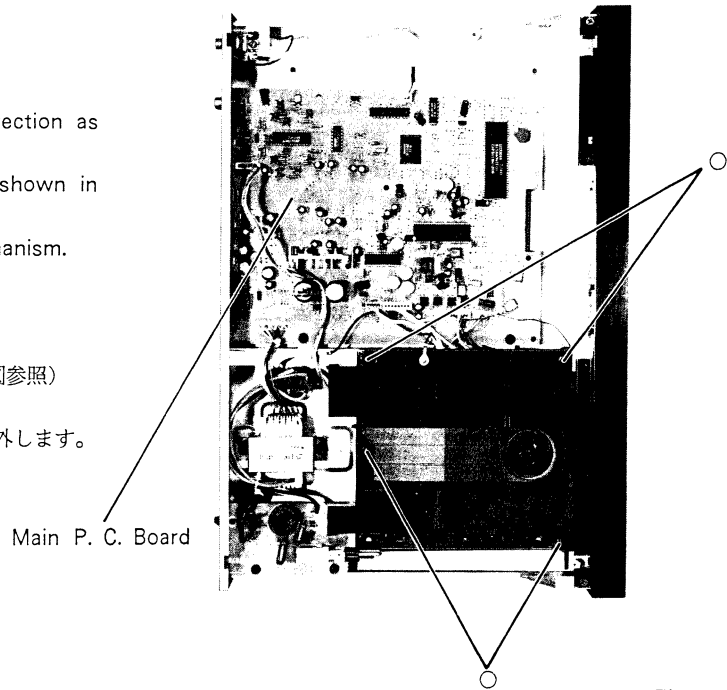

Figure 1
In Figure 1, all the track numbers are displayed and the track about to be played is displayed as 1 near the "DISC" symbol.
- (3) Remove four screws marked "O" as shown in Figure 1.
- (4) Disconnect all wires from the CD Mechanism.